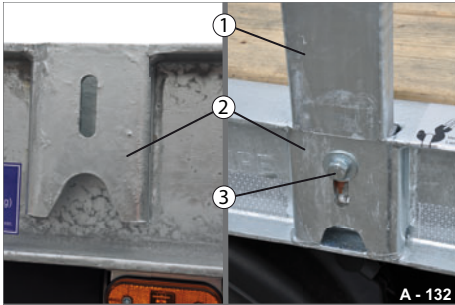

Fig. 103 Posts, safeguard from the front
- ▶ Insert the post (Fig. 103/1) completely into the post pocket (Fig. 103/2).
- ▶ Secure the post with screws/washers (Fig. 103/3) from the front.